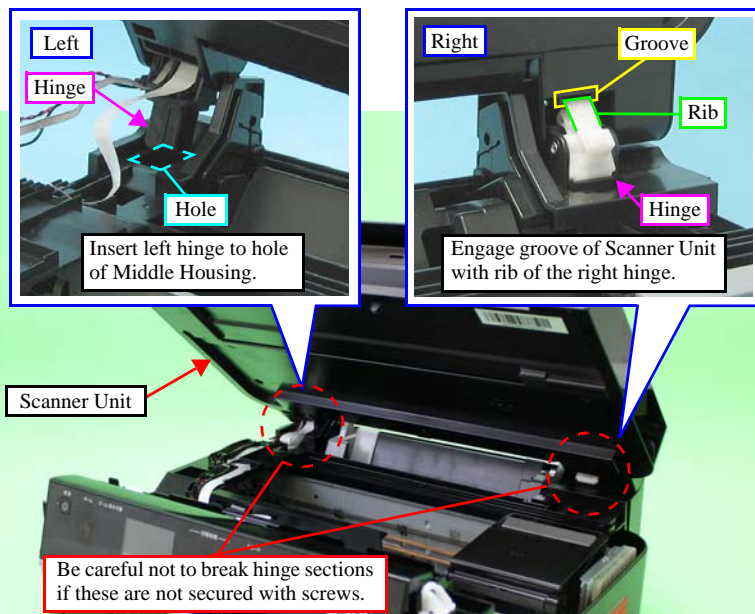

Figure 8-1. Scanner Unit
1. Install the Scanner Unit to the printer as instructed in Fig. 8-1.